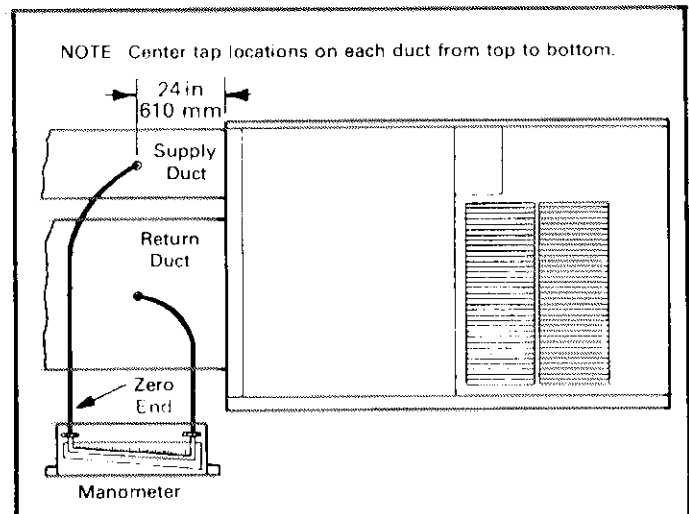

FIGURE 7
- 1 - Measure tap locations on supply and return ducts at least 24 inches from unit and centered top to bottom. See Figure 7.
- 2 - Punch approximately 1/4 inch diameter holes in ducts. Insert manometer hoses flush with inside edge of duct or insulation. Seal around hoses with permagum or sealing compound. Connect zero end of manometer to supply side of system. Refer to Figure 7.